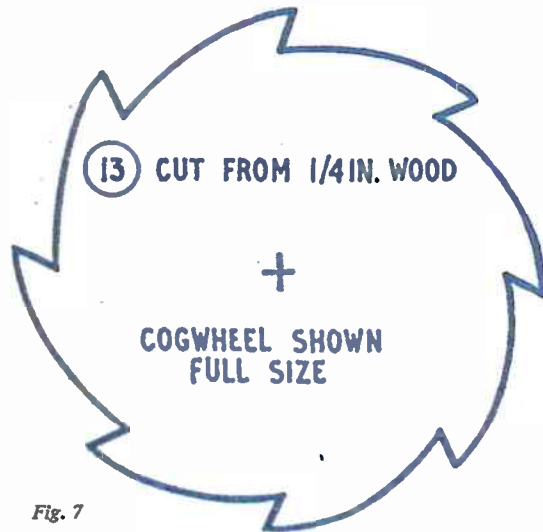

Fig. 7
Turn your attention now to the ratchet (13) that produces the noise. Cut this to shape as shown full size in Fig. 7 from 1/4 in. wood. Fig. 8 shows the spring just about to drop off the end of a cog. A piece of springy metal is fixed to a small block by means of a screw. The block is in turn screwed to piece 2.